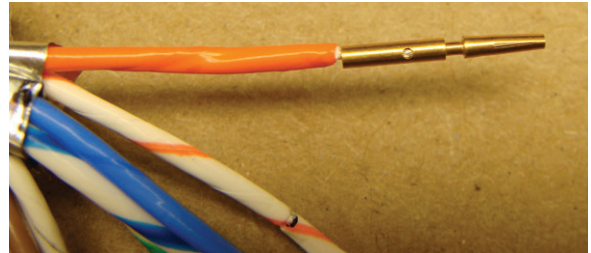

Figure 27: Sliding the socket contact
15. Slide the socket contact from the 980-2002-552 connector kit onto the stripped end of the primary wire (Figure 27).